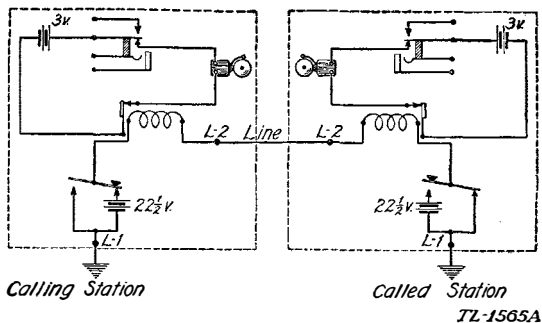

FIGURE 6.—Telegraph sets TG-5 and TG-5-A—calling circuit with plugs not in jacks.
**7. Bell.**—The bell is a small one of the vibrator type and is fitted with a 1¼-inch gong. It is adjusted by a small accessible screw. When the headset plug is not in the jack, this bell is in series with the local battery and the relay contacts, and operation of the relay by the key of its set or by the key of a distant set will ring the bell. (See fig. 6, which applies to both sets.) Inserting the plug in the jack breaks this circuit at the jack and the bell cannot ring. The bell is used, therefore, to receive and sound calls from other sets and to test the set of which it is a part. (See sec. III.)
19. Testing calling circuit (fig. 6).—If the set has been prepared as directed in paragraph 18, test the calling circuit by short-circuiting the L1 and L2 binding posts and pressing the key. The bell should ring; if it does not, it is probable that the local battery is not properly connected, its voltage is too low, or the relay is not adjusted. If it is known that the fault is not in the battery, increase the gap pointer setting one notch at a time beginning with 0 until the bell rings when the key is depressed. Release the key. If the
L1 and L2 must be connected to a wire which forms part of the circuit on which the set is to be installed. Both of these wires may be part of a line but usually one is part of a line and the other leads to a ground near the set. In all terminal stations shown in figures 6 to 10, inclusive, L1 is connected to the ground and L2 to the line. If those connections are reversed, however, the operation of the sets will not be affected.